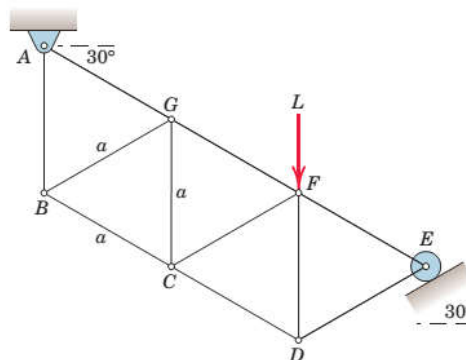

Fig. 5
4. The truss is composed of equilateral triangles of side a and is supported and loaded as shown below in Fig 5. Determine the forces in members BC, BG and CG. [12]